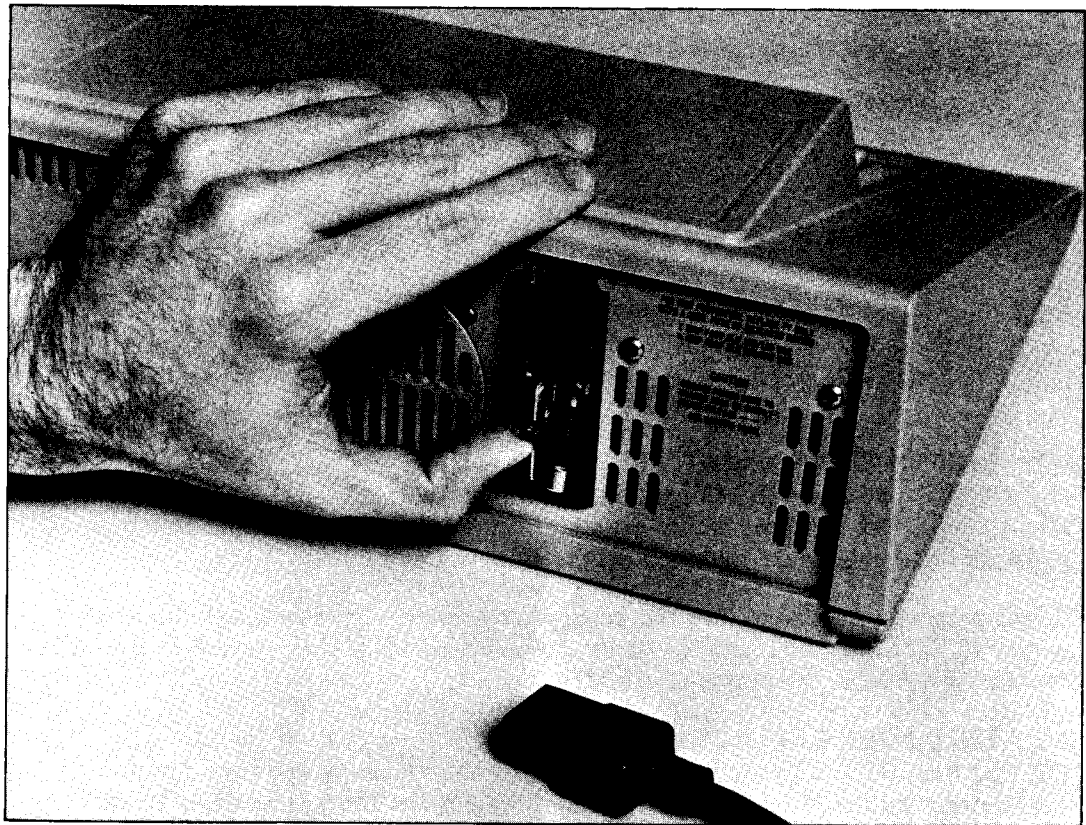

Figure 2-1. Line Fuse Replacement
The line fuse (F1) is located in a recessed compartment in the rear panel. Line fuse replacement is illustrated in Figure 2-1. To replace the fuse, proceed as follows:
3. Pull up the plastic lever (as shown in Figure 2-1) to slide the fuse out of the compartment.